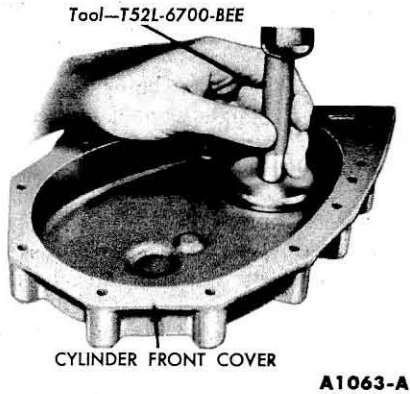

FIG. 36—Front Seal Installation
2. Coat a new seal with grease. Install the seal (Fig. 36).